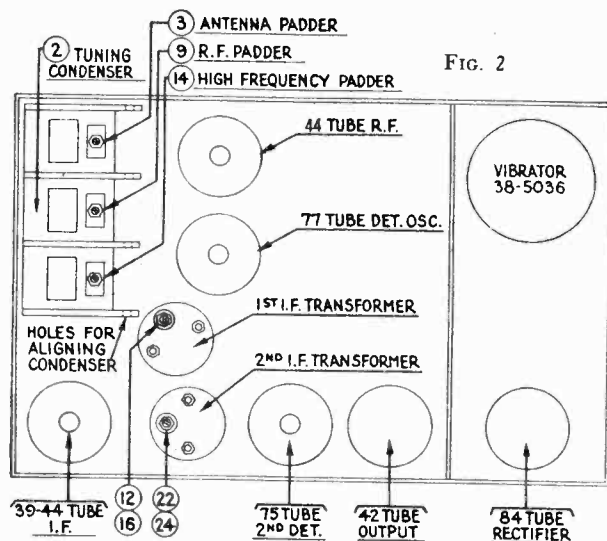

FIG. 2
Remove the speaker lid from the Receiver. Remove the grid cap terminal from the 77 tube (for location see Fig. 2).
Set up the signal generator and adjust it to exactly 260 K. C. Connect the generator lead to the grid cap of the 77 tube. (See Fig. 2.) The output meter must be connected.
The padders ② and ③ are adjusted first (Figs. 2 and 3). Turn the adjusting screw ② all the way in. A metal screwdriver can be used for this. Then, with generator attenuator set so there is approximately half-scale reading, adjust the nut ③ with a fibre wrench for the maximum reading on the output meter.
There are four holes in line, one in each of the sections of the tuning condenser housing. (See Fig. 2.) Place a nail of the size that fits snugly through the holes and then turn the condenser plates out of mesh until they strike against the nail.